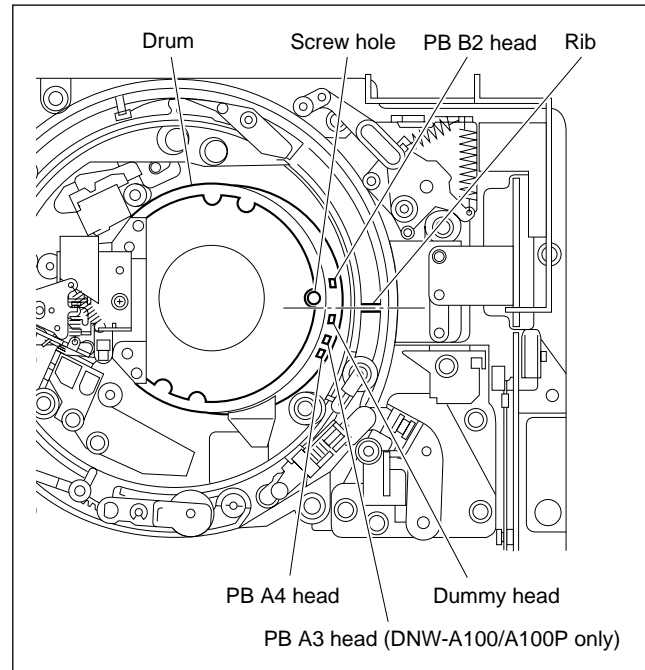

Figure 2. Setting of Drum Position
1. Turn the upper drum manually counterclockwise (↺) to align the screw hole to the rib of the threading ring as shown in Figure 2.
- (Refer to Figure 2.)